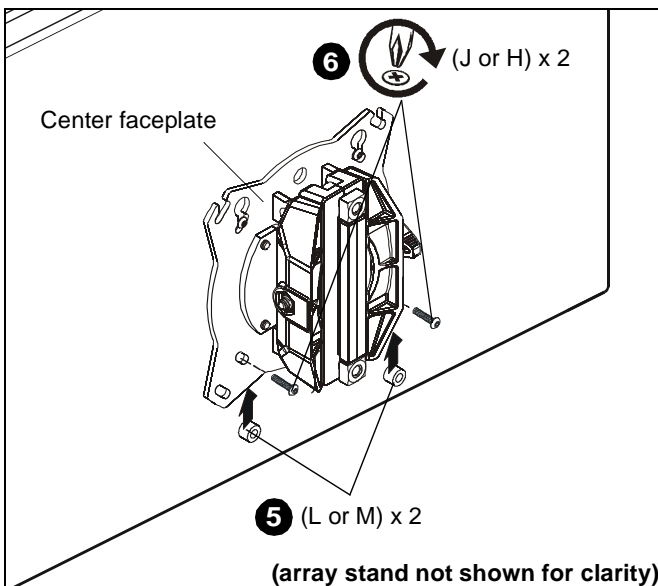

Figure 15
5. Slide two remaining selected spacers (L or M) in between faceplate and display, positioning them over the *lower* two mounting holes. (See Figure 15)
6. Install two remaining selected screws (J or H) through *lower* two mounting holes on faceplate, selected spacers (L or M) into the *lower* mounting holes on the display. (See Figure 15)